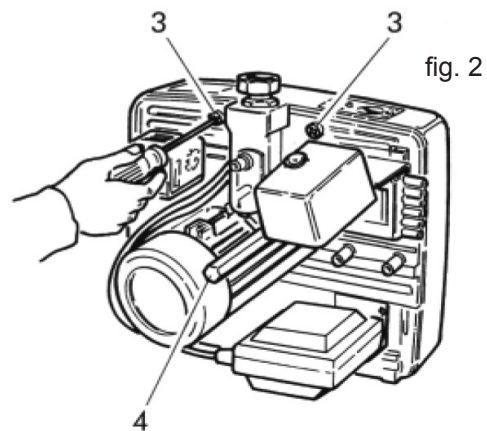

fig. 2
- Unscrew the screws 3 and the central pin 4 (fig.2).